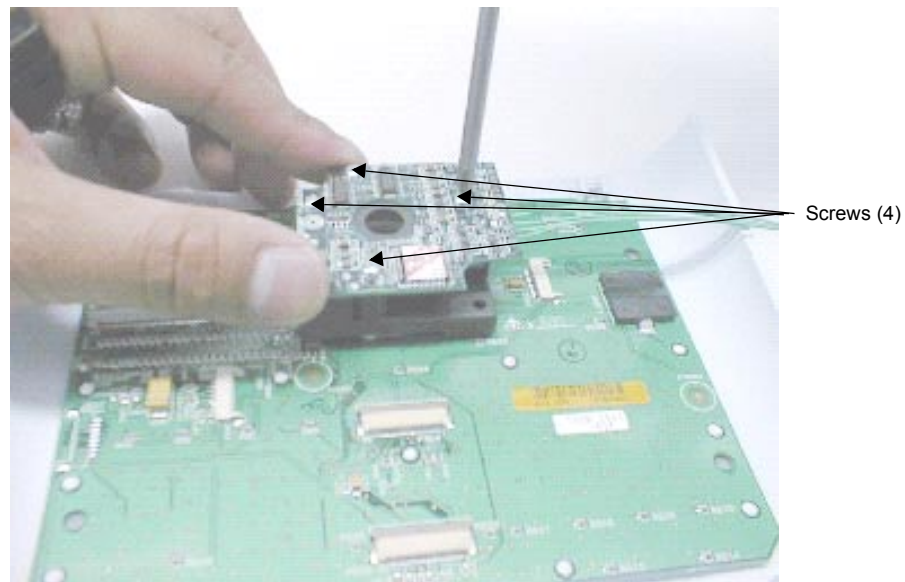

Figure 7.13 Securing the Trackball
- 4 Tighten the four screws securing the Trackball using a #1 Phillips screwdriver (Figure 7.13). Torque the screws to 3.6 in./lb. (0.4 newton meter).